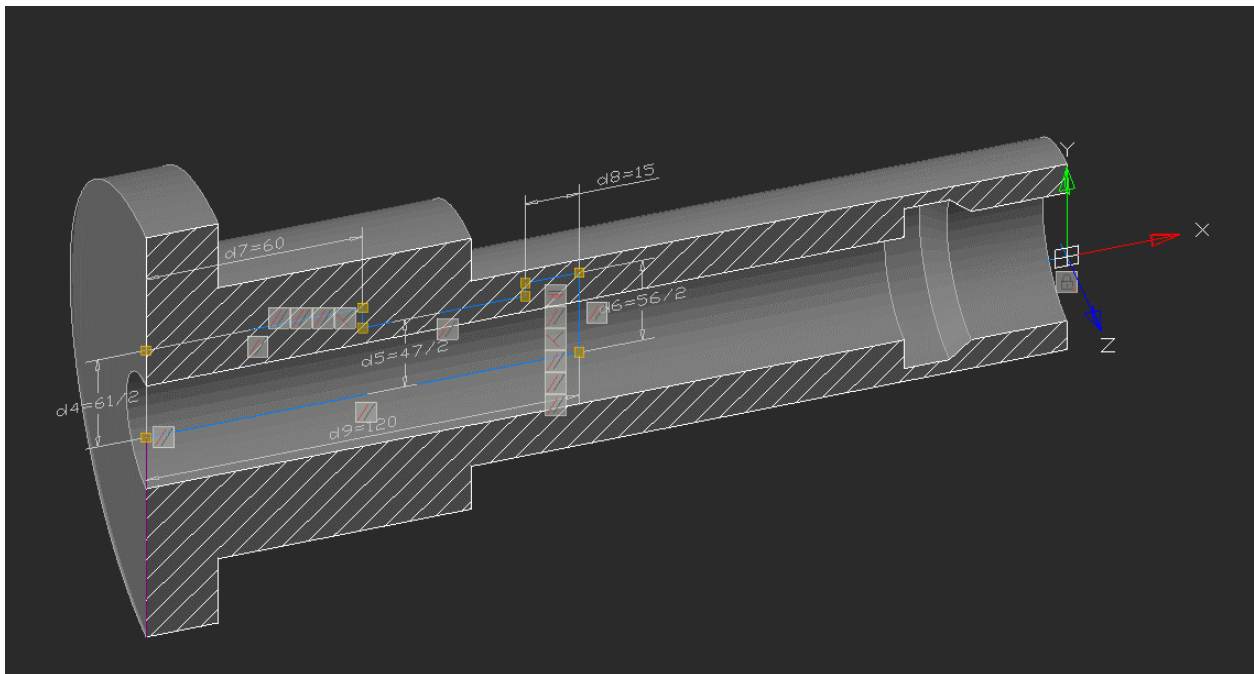

Fig. 18. The sketch with the 3D Revolve operation
5.6. Construct the $\varnothing 61$, $\varnothing 47$, $\varnothing 56$ diameters by using the reference drawing. You can implement any of the methods described above. The final sketch created with the **3D Revolve** operation is shown in Fig. 18.